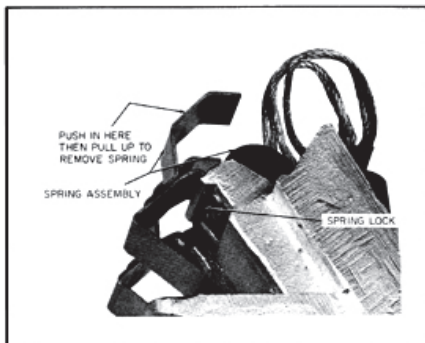

FIG. 5-2. DETAILS OF BRUSHHOLDER SPRING LOCK.
- a. Push the spring in at the location shown in Fig. 5-2.